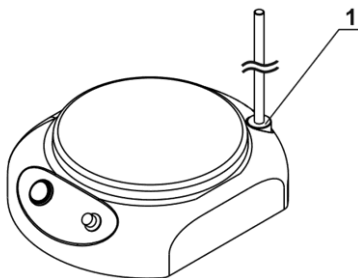

Figure 1. SR-1 stand for MMS-3000
4.4 **SR-1 stand installation on MMS-3000.** Remove the screw on the fixing socket at the back of the stirrer (fig. 1/1). Screw in the part of the stand with the counter-nut into the fixing socket and secure with the counter-nut. Screw in the second part of the stand into the attached first part.